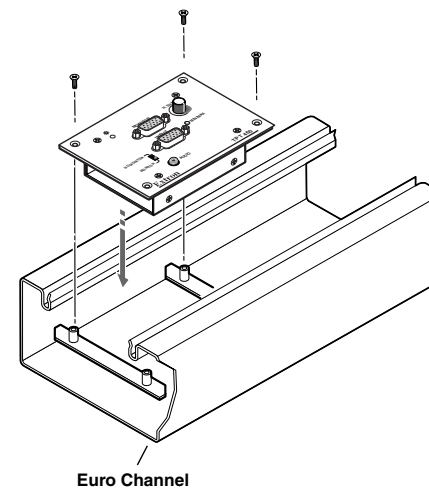

Figure 2-12 — Mounting the transmitter in a Euro Channel
2. Mount the interface to the Euro Channel by attaching the faceplate to the two mounting brackets using the four #4-40 mounting screws (figure 2-12).